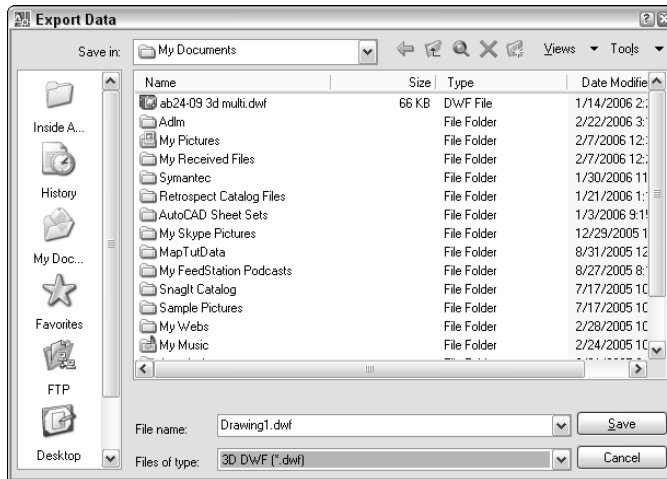

**Figure 27-2:** The Export Data dialog box.
1. Choose File ⇨ Export to open the Export Data dialog box, as shown in Figure 27-2.